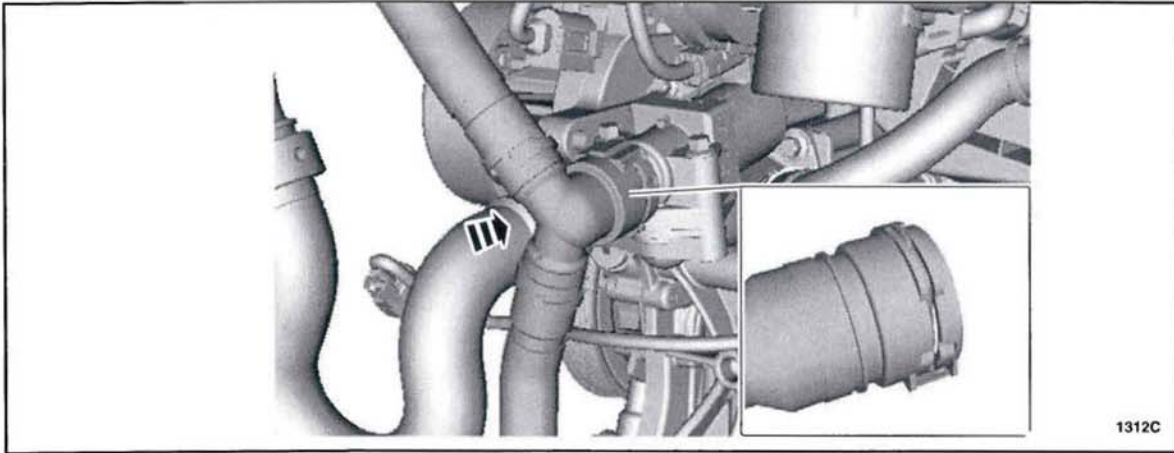

FIGURE 15
11. Connect the quick connect T-fitting to the coolant shutoff solenoid valve. See Figure 15.